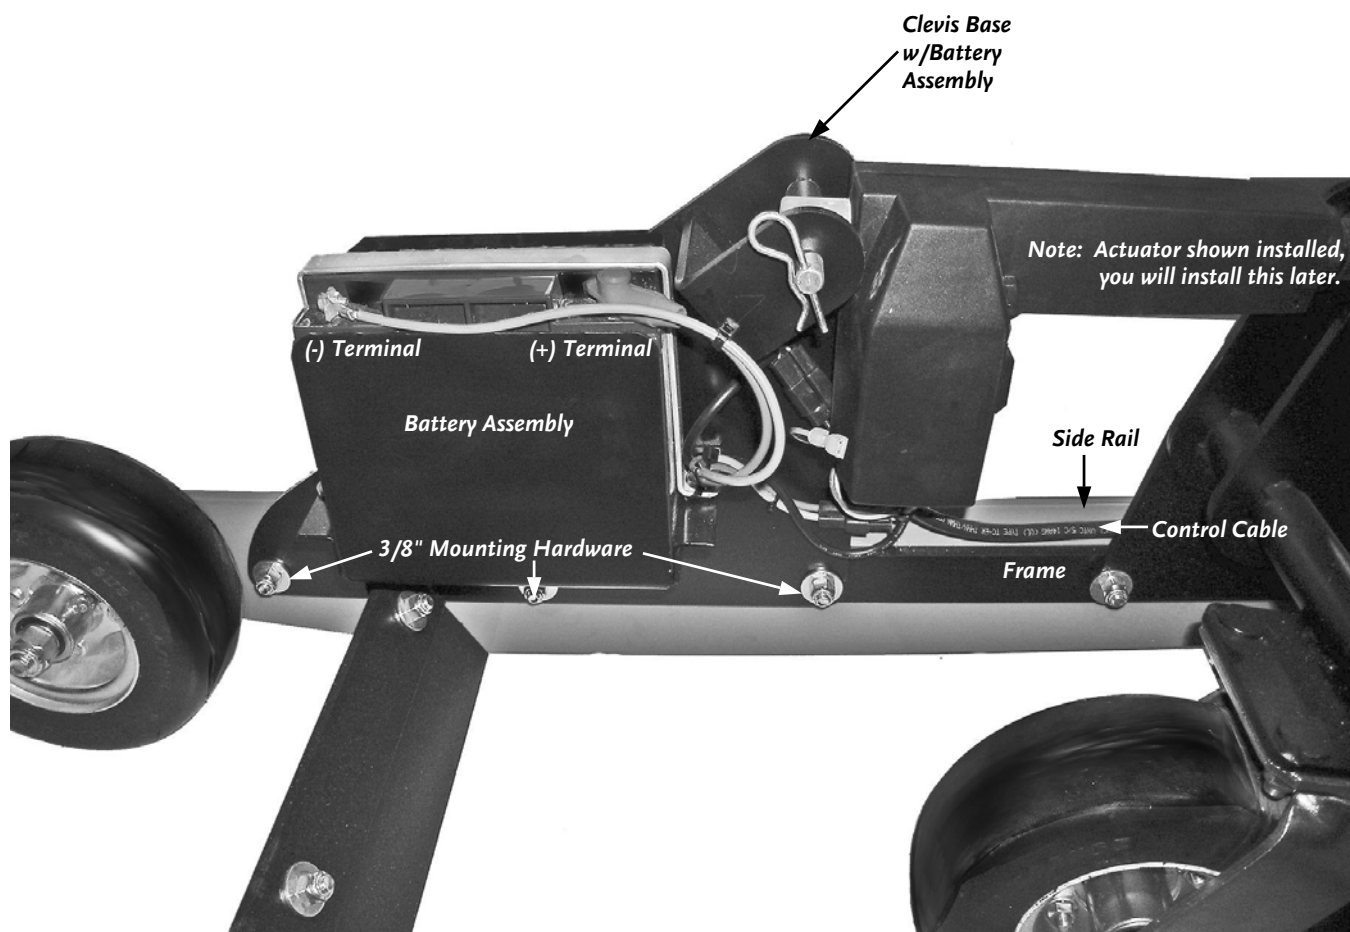

Figure 3
2. Using two (2) 9/16" Wrenches, bolt the Clevis Base w/Battery Assembly to the left Side Rail with the three (3) 3/8"-16 x 1-1/2" Bolts, 3/8" Flat Washers and 3/8" Nylon Lock Nuts (**Figure 3**).
4. Route the Control Cable between the Caster Bracket and the Side Rail pushing it down on top of the Frame (Figure 3 on page 13).